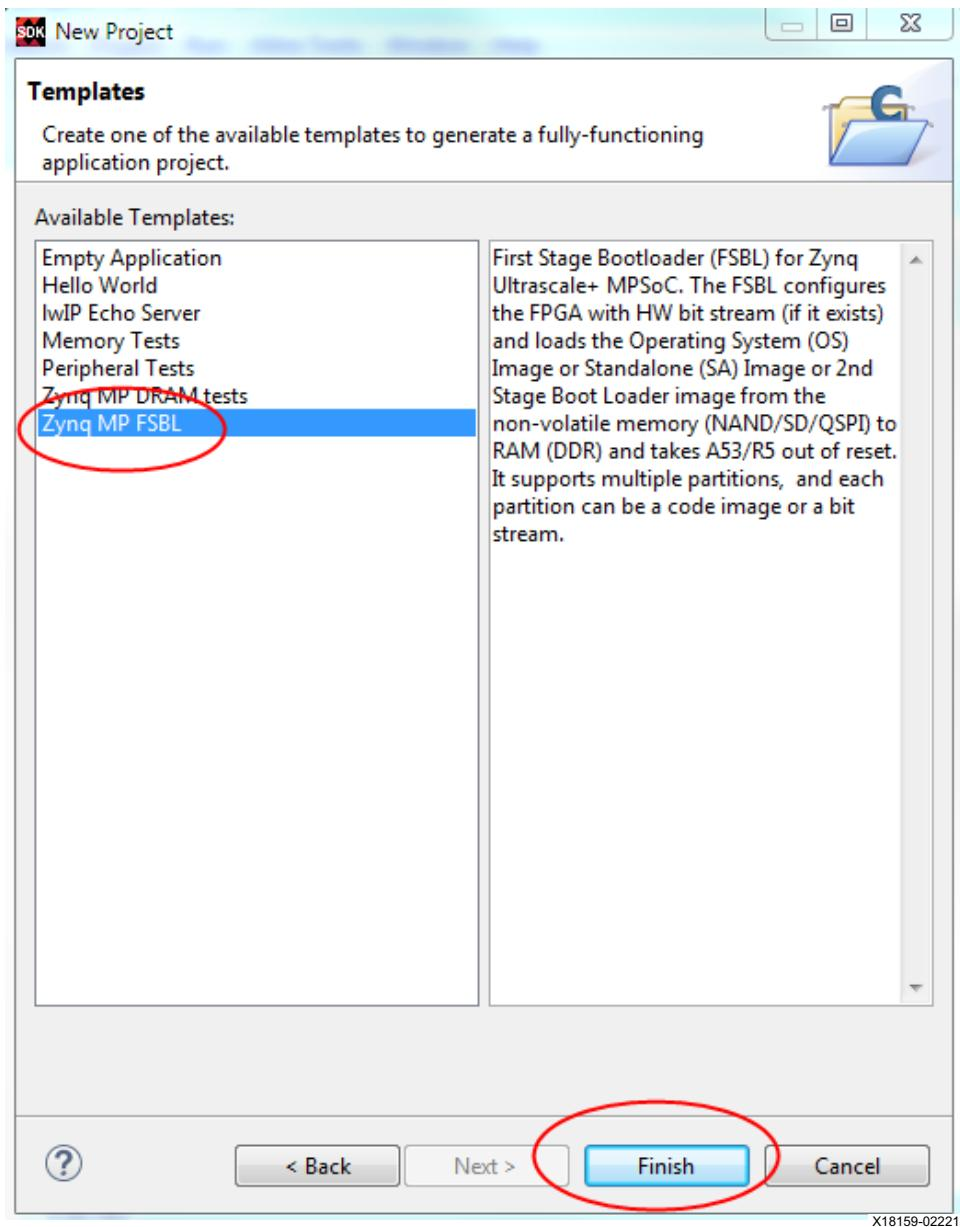

Figure 10: Design 1 - Zynq MP FSBL Template
- b. Select **Zynq MP FSBL**. Click **Finish**. See Figure 10.